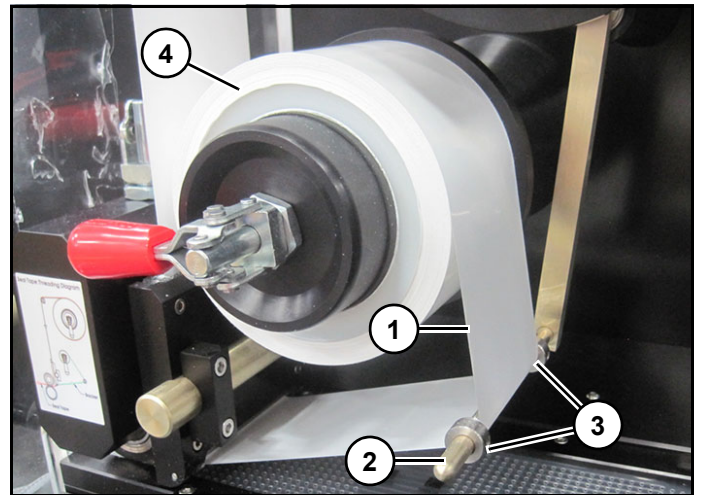

Figure 8
8. Position white backing tape (1) around dancer bar (2) between collars (3). (Figure 8)
9. Attach backing tape (1) to backer rewind reel (4) with adhesive tape. (Figure 8)